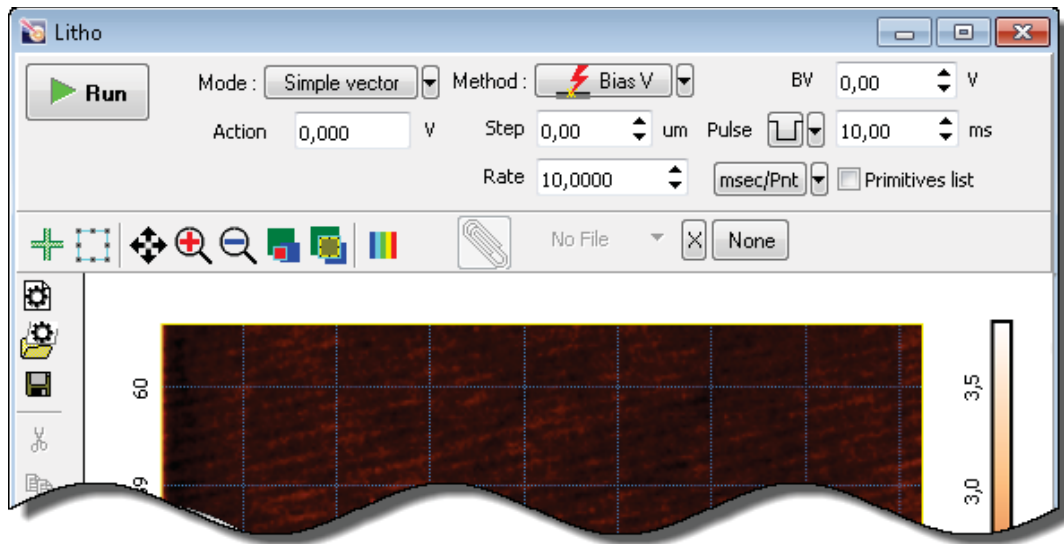

Fig. 13-37. Litho window
2. Open the **Litho** window (Fig. 13-37) by clicking the  button.